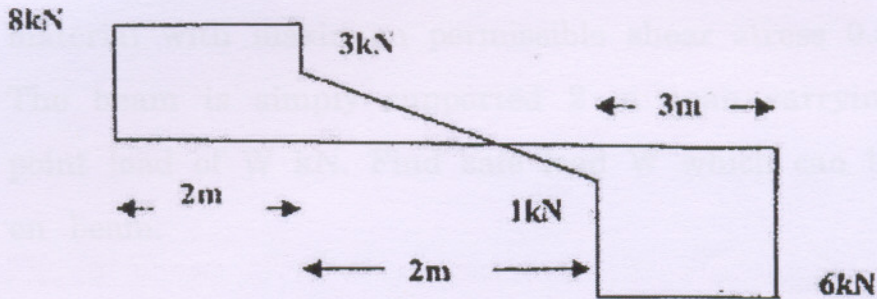

Fig. 5
- (b) Fig. 5 shows SFD of a loaded beam. Plot loading diagram and BMD. [8]